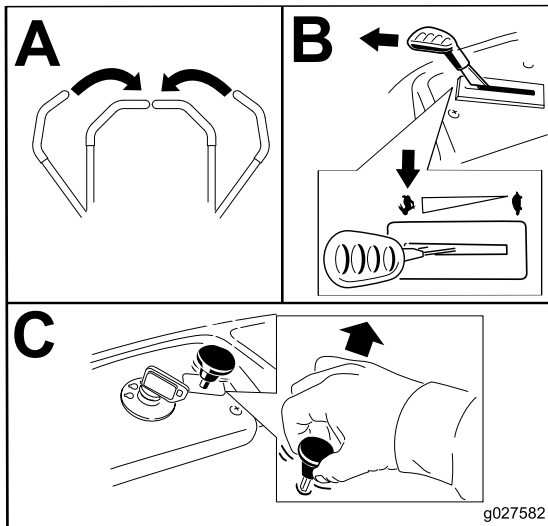

Figure 11
Note: Always engage the blades with the throttle in the FAST position (Figure 11).
1. Disengage the blades by pushing the blade-control switch to the OFF position (Figure 11).